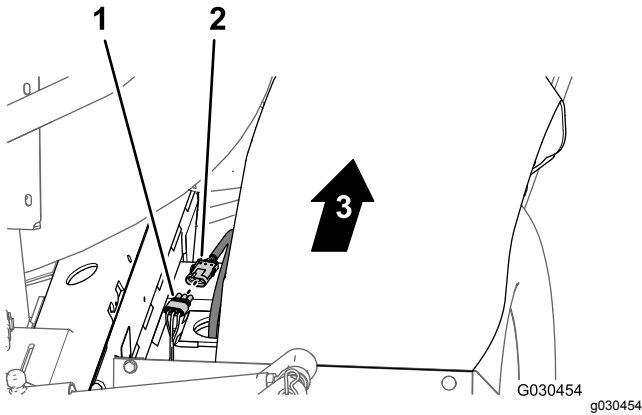

Figure 22
- At back of the machine (between the right frame tube and the right fender) disconnect the 3-pin connector of the speed-sensor harness at the right hydraulic-traction motor from the 3-socket connector of the rear, main harness (Figure 22).